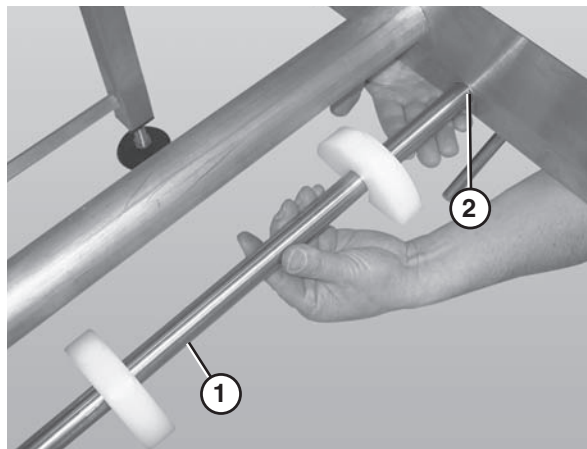

Figure 42
2. Slide the return shaft up (Figure 42, item 1) and through the large slot (Figure 42, item 2) in the frame (picture shown without the belt or wear strips).
3. Push up on the return shaft (Figure 42, item 1) and slide the notched end of the shaft through the small slot on the opposite side of the frame.